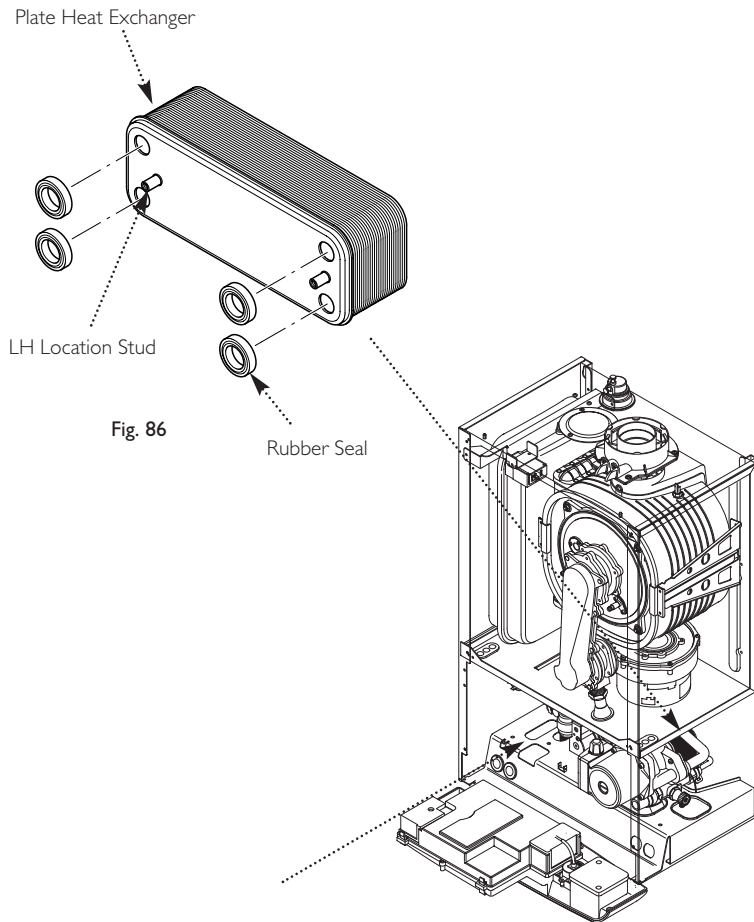

Fig. 86
14.19 Plate Heat Exchanger (Fig. 86)